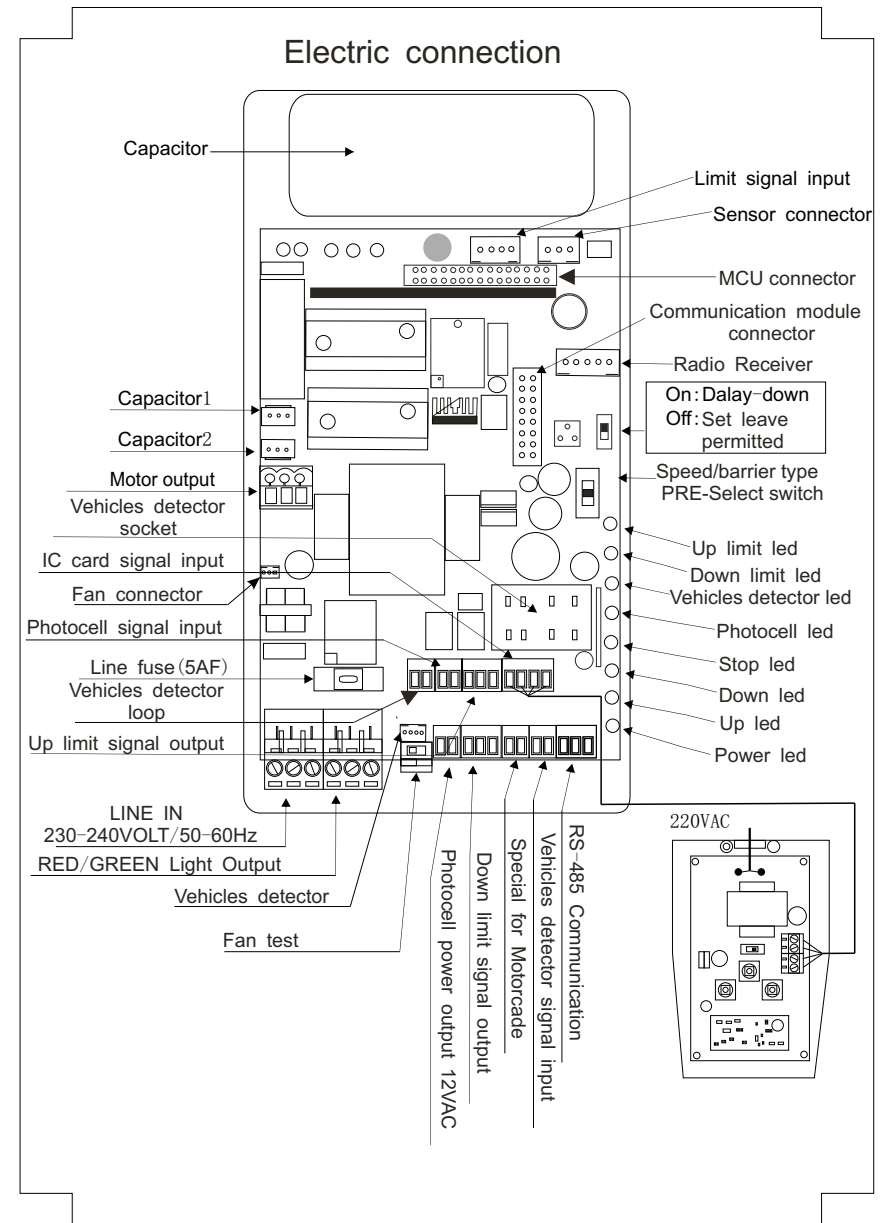

Fig. 12
7.4) Installation and connections of the electric part (refer to Fig. 12)
This switch transmits the "UP" and "DOWN" command to boom by optical signal. (Notice: More details please refer to Fig. 12)